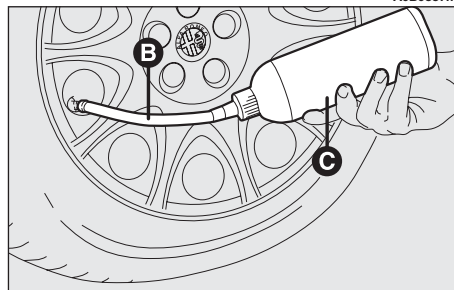

fig. 16
4) Introduce the filling pipe (**B-fig. 16**) in the tyre valve, keep the bottle (**C-fig. 16**) with the pipe directed downwards, then press it so that the whole sealer can get into the tyre.